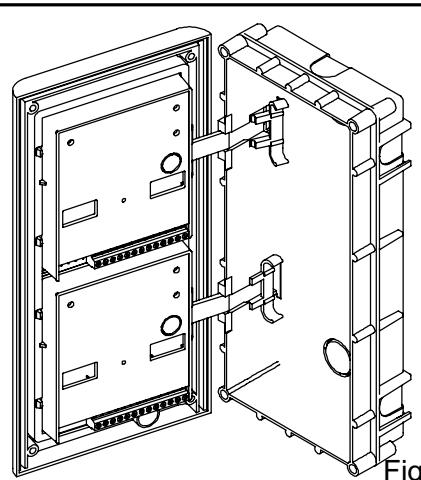

Fig.9
- Continue from the third step of surface mounting, but at the sixth step hook the hinge locks **N** as shown on figure 9.